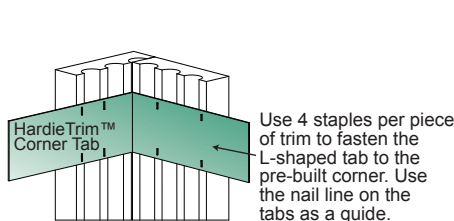

Figure 4
- Attach HardieTrim Corner Tabs to the back side of the trim using eight(8) - 18 ga. 1/2" L x 1/4" W narrow crown galvanized staples using a pneumatic stapler. Ensure the HardieTrim Corner Tabs are fastened tight and straight to the trim boards. (Figure 4)